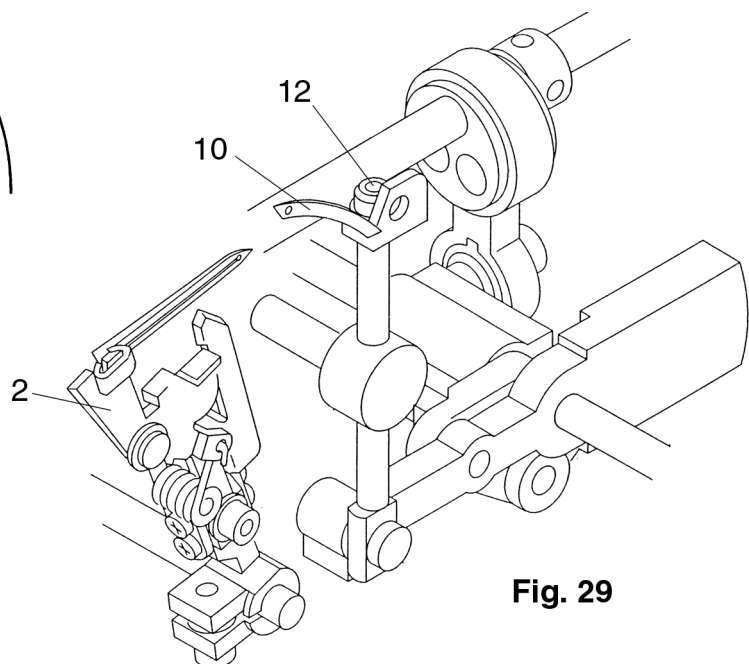

Fig. 29
- Slightly loosen the screw 12 (fig. 29).